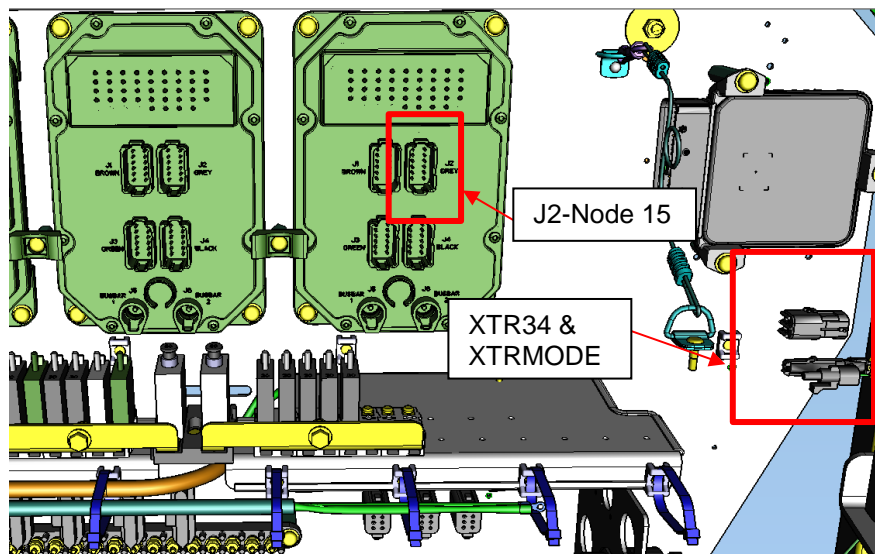

Figure 2: Rear Panel connectors
3. Locate connector J2 in Node 15. See Figure 2 for reference.